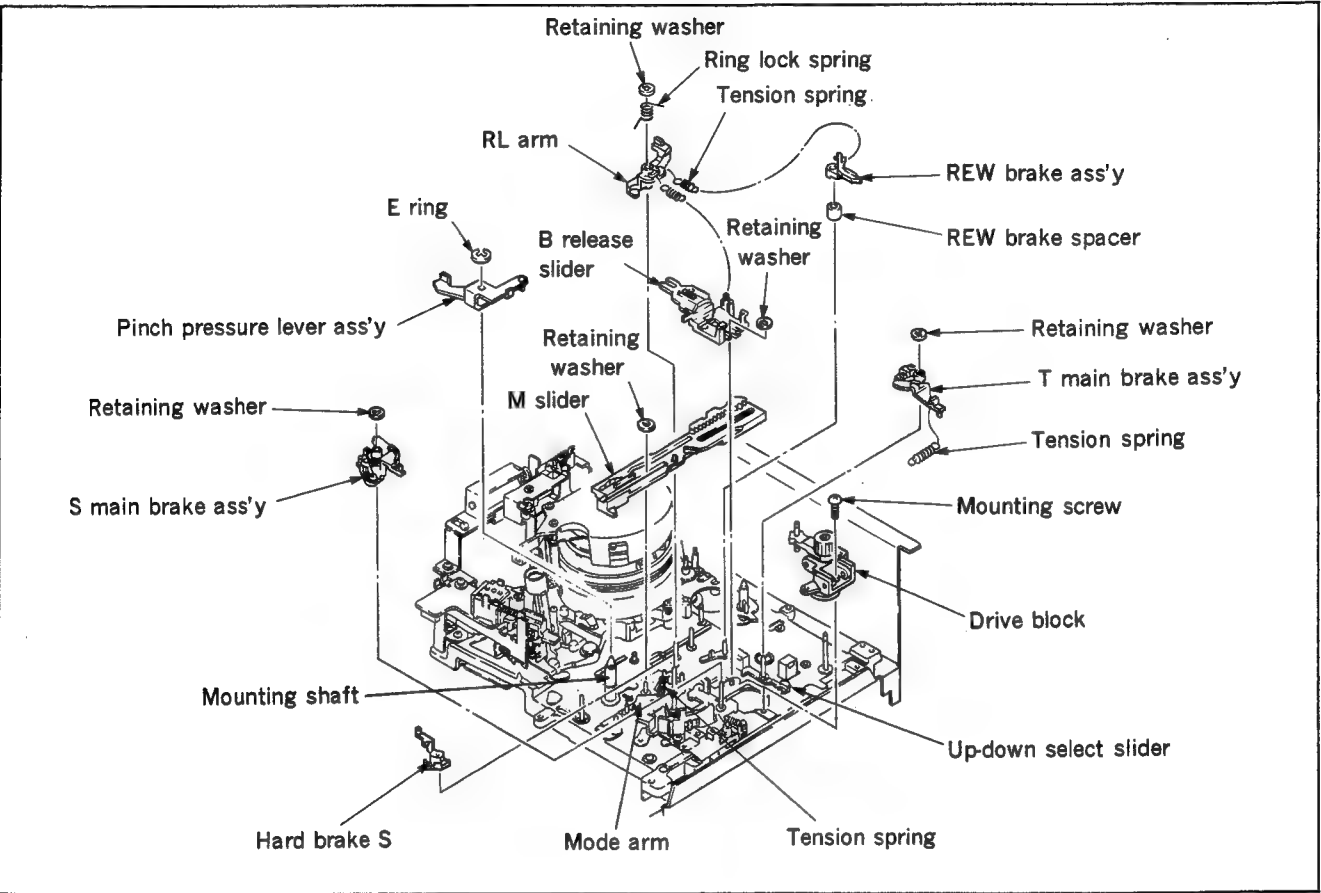

Fig 4-24-2. M slider replacement
Remove mounting screw shown in Fig.4-24-2, then remove drive block.
16. REW brake ass'y removal (Fig.4-24-2)
17. B release slider removal (Fig.4-24-2)
18. RL arm removal (Fig.4-24-2)
- 2) Push the mode arm as indicated in Fig.4-24-2 in the direction of the arrow, then refer to Fig.B to install M slider while being careful of the other parts above and beneath it, and fix it with retaining washer.